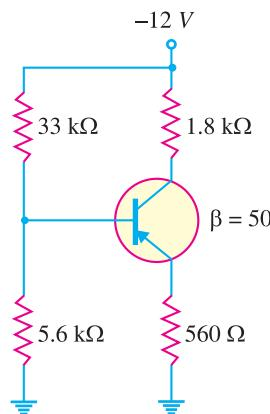

Fig. 9.57
16. (i) Determine the base voltage  $V_B$  in Fig. 9.57.
17. (i) Find the Q-point values for Fig. 9.57.
(ii) Find the minimum power rating of transistor in Fig. 9.57. [(i) 1.41 mA ; -8.67V (ii) 12.2 mW]